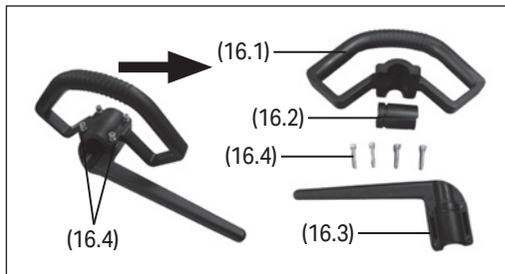

Fig.1
6.1 Fitting Front Handle (Fig.1 - Fig.4)